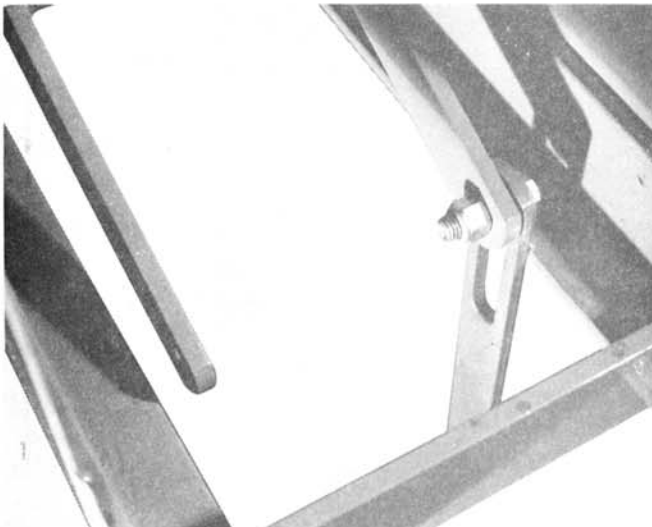

fig 12
15. Install the hydraulic lift straps (item 96) on the tractor using bolt (item 99), flat washer (item 98), bushing (item 97) and lock nut (item 100). Straps go on outside of hydraulic lift. See fig 12.